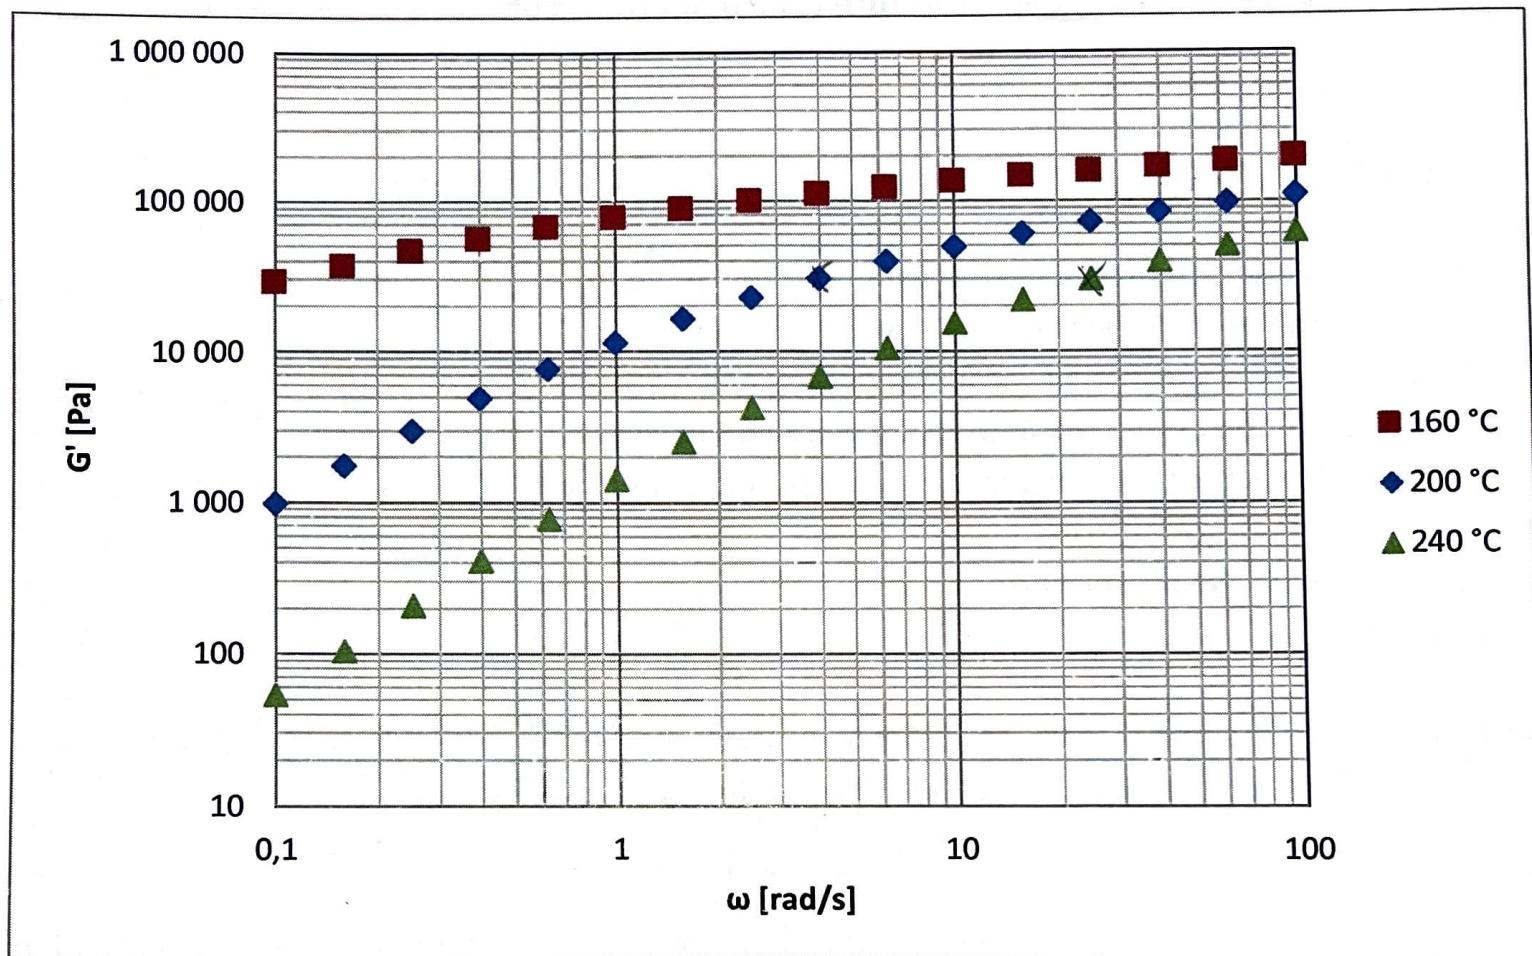

Figure 2. The storage modulus as function of the angular frequency measured at three different temperatures
5. **Calculation** The figure 2 shows the storage modulus G' (ω) for a polymer melt that follows time-temperature superposition principle at temperatures 160, 200 and 240 °C. Determine the temperature shift factor α_T , at temperatures 160 and 240 °C, when the reference temperature is 200 °C. Does the shift factor follow the Arrhenius equation? The intersection of G' and G'' at 200°C is at 3.5 rad/s. At which angular frequency the G' and G'' are crossing at 240°C?